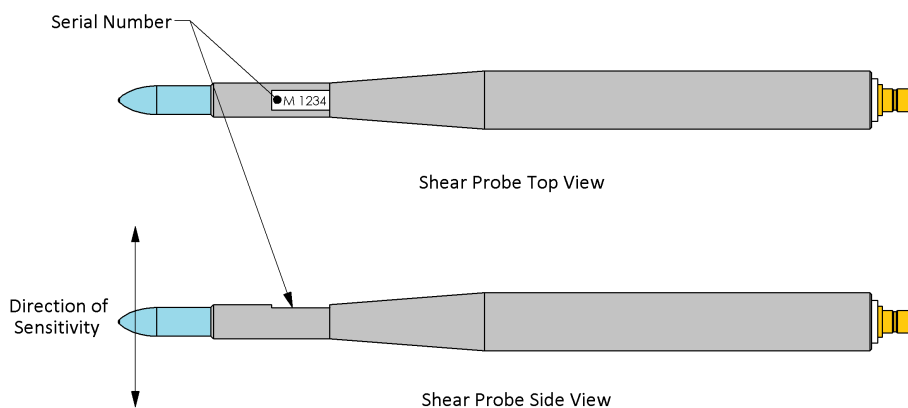

Figure 16: Shear probe direction of sensitivity.
2. Orient the shear probes' axes of sensitivity relative to the instrument axes (Figure 2). Typically, "S1" is aligned with the x-axis and "S2" is aligned with the y-axis. The sensitivity on a shear probe is in the direction normal to the flat surface that indicates the probe's serial number (i.e. M1234), which is highlighted in Figure 16. Note: The orientation of other microstructure sensors (FP07 temperature probes, SBE7 micro-conductivity probes) do not matter.